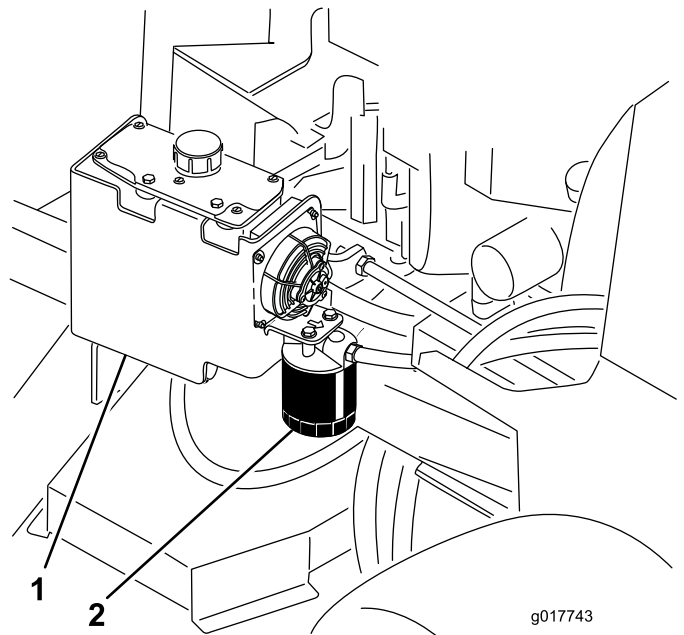

Figure 77
3. Locate the filter and place a drain pan under filter (Figure 77).